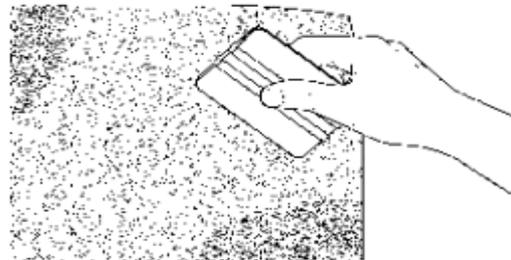

Figure 4. Squeegee the Area That Was Previously Only Tacked
4. Pull the film away where you tacked it with your thumb and then squeegee that area; this prevents wrinkles. See Figure 4.